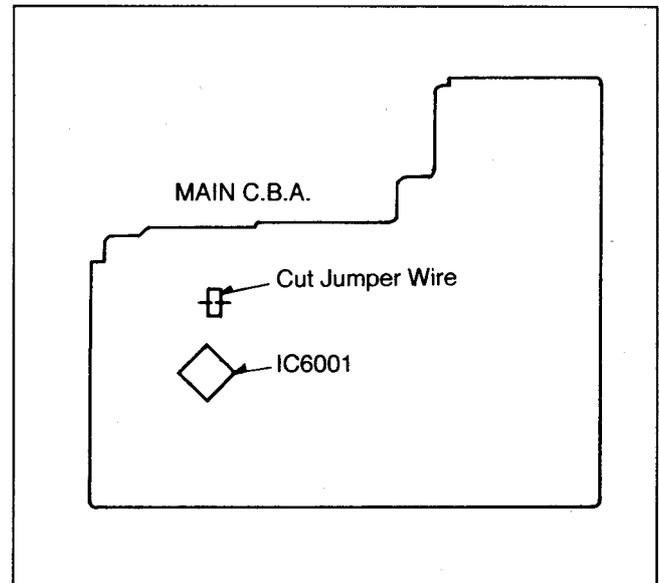

Fig. E4
- Note: 1. Before this adjustment, connect a jumper wire which has been cut as shown in Fig. E4.
- Note: 1. Before this adjustment, connect a jumper which has been cut as shown in Fig. E4.